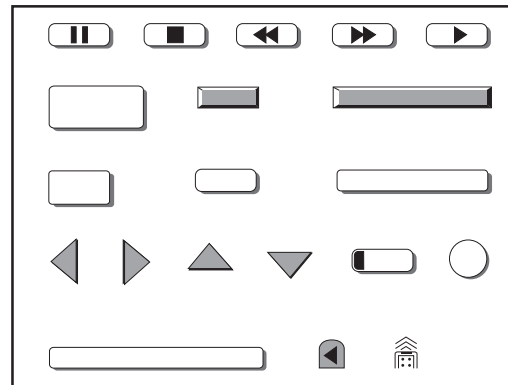

Figure 16
3. Move to the page you wish to create a new button by pressing the PAGE button. Press the CHANNEL UP or DOWN buttons and various sizes and shapes of buttons will appear on the top left side of the Touch-button Screen. Refer to figure 16.